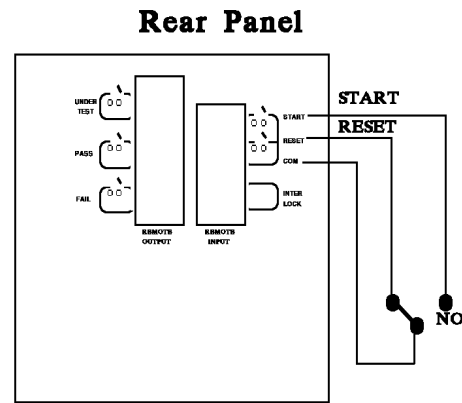

Figure 4-6
2. As figure 4-6, the main unit is under STOP status. NC point is connecting to STOP and NO point connecting to START.